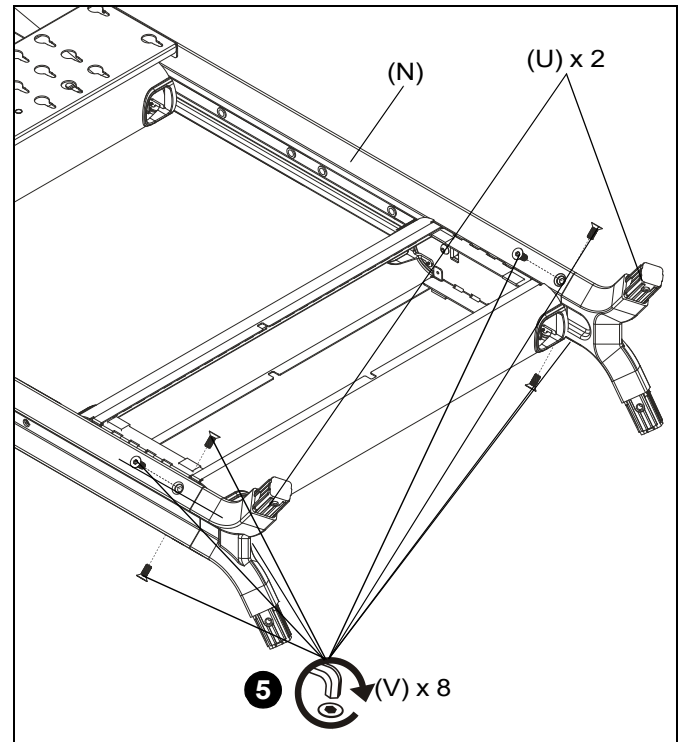

Figure 3
5. Use eight M8 x 16mm flat head cap screws (V) to secure two coupler assemblies (U) to main assembly (N). (See Figure 3)